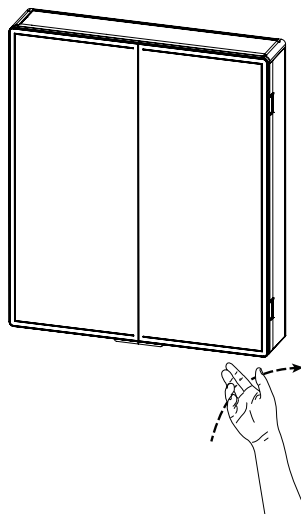

Fig. 6. - Switch operation
1. Wave hand past the sensor switch underneath the right hand side of the cabinet, see Fig. 6.